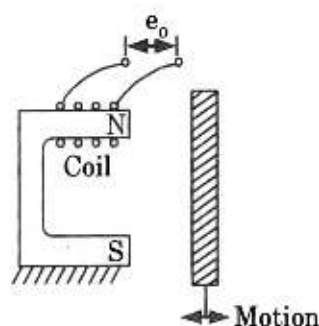

Fig. 5.11.2. Electromagnetic transducer.
- Fig. 5.11.2 shows an electromagnetic transducer, in which a voltage is induced in the coil when the magnetic flux about it is varied due to the motion of the object, which has to be done for a ferromagnetic material.